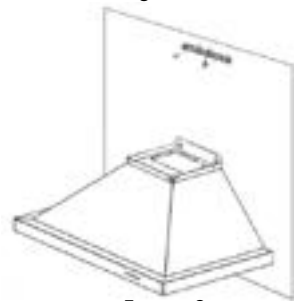

Figure 3
4. Mount the top chimney mounting bracket centering it above the hood. *Figure 3*